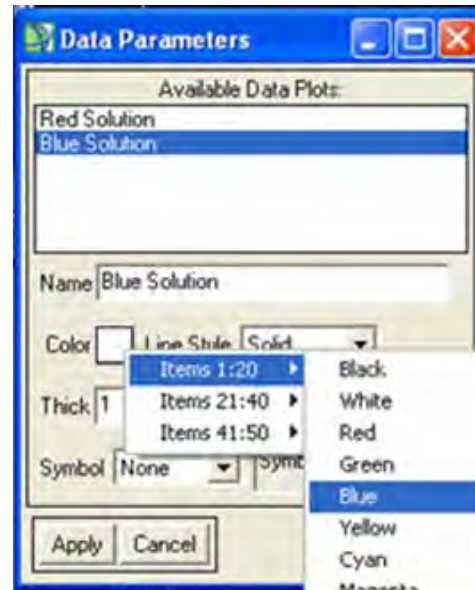

Figure 46. Changing graph color
- c. Change the color of the plot: (see Figure 46)